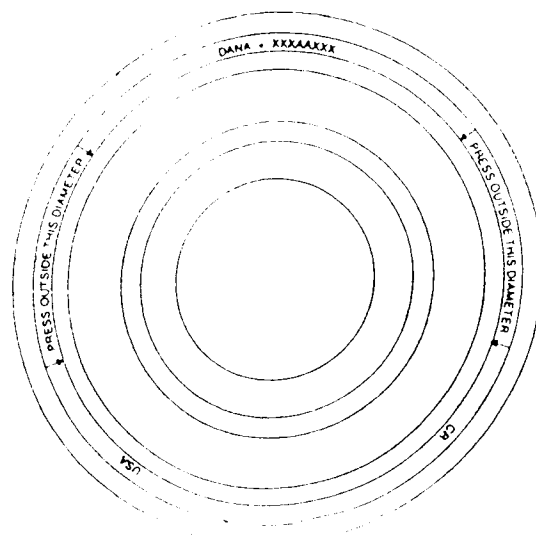

Figure 2
5. Using OTC seal installation tool (DST 1021) with handle (DST 1000-1), install unitized seal until fully seated into bearing retainer. (See Figure 2 for installation tool location on seal.)